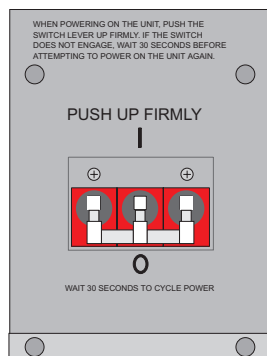
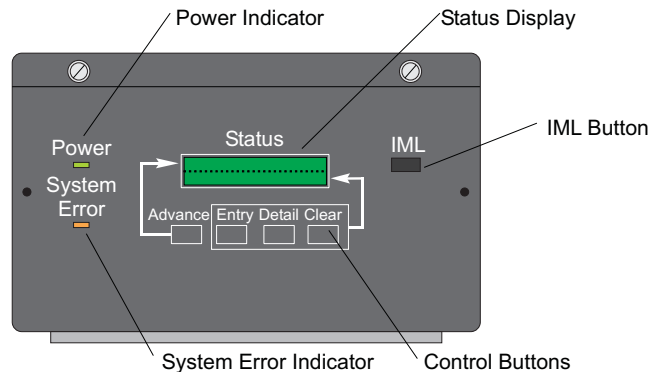
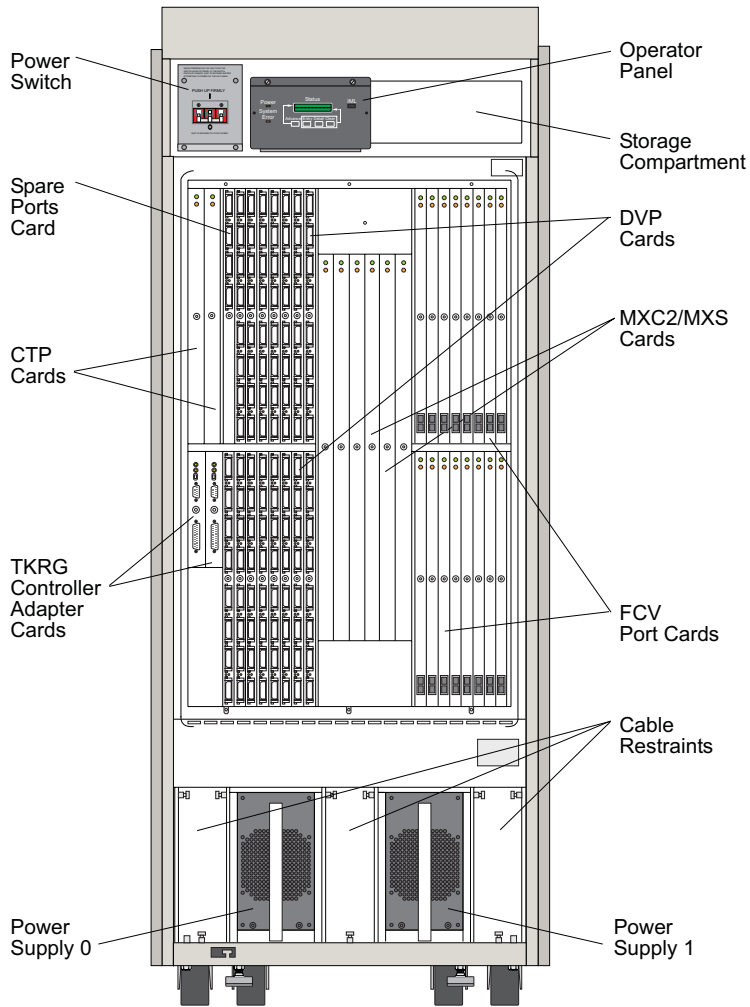

Figure 5. Power Switch
Figure 6. Operator Panel
Figure 7. 9032-005 Director (Front View)
- **Power Switch** - Setting the power switch (Figure 5 and Figure 7) to the on position (|) supplies ac power to the dual power supplies and powers on the Director. Setting the power switch to the off position (O) powers off the Director. The power switch is a non-concurrent field-replaceable unit (FRU) that is removed and replaced only when the Director is powered off.
- **Operator Panel** - The operator panel (Figure 6 and Figure 7) includes a:
- **CTP Card** - The Control Processor (CTP) card (Figure 7) contains a microprocessor and associated logic that provides overall coordination for the Director. The card also initializes system hardware components after power on or reset. During Director operation, the CTP card controls the operator panel, port exception handling, error recovery, maintenance port operation, and control unit port (CUP) operation.
- **Spare Ports Card** - The spare ports card (Figure 7) is only used when ESCON ports on a standard DVP card are swapped for spare ports. The card does not increase the total number of active connections available. The spare ports card *cannot* be used to swap a FICON port on an FCV port card. The spare ports card contains either:
- **Storage Compartment** - The storage compartment (Figure 7) provides storage for tools and supporting publications.
FCV Port Card - The FCV port card (Feature Code #5260) is the hardware interface for FICON fiber-optic media (Figure 7). Up to 16 FCV port cards can be installed in the Director. The card provides a multiplexing and conversion function that connects one FICON port to eight internal ESCON ports that connect to the Director's logic board assembly. The card acts a FICON-to-ESCON converter.
- **MXC/MXS Card Set** - The Matrix Controller/Matrix Switch (MXC/MXS, shown in Figure 7) is a three-card set that controls dynamic connection requests and provides connection paths between ports specified by port attributes configured through the Director Console or System Automation for OS/390 (SA OS/390). There are two MXC card types:
- **DVP Card** - The DVP card (Figure 7) is the hardware interface for ESCON fiber-optic media. A minimum of three DVP cards (24 ports) must be installed in the Director. Each DVP card contains either:
- **Cable Restraint** - Fiber-optic jumper cables are routed to the Director through access holes beneath three cable restraints (Figure 7). Removable covers restrain the cables after they are routed to port cards. The covers can be adjusted to allow for additional cables when port cards are added.
- **Power Supply** - Two variable-input power supplies (Figure 7) step down and rectify facility input power to provide dc power to Director components. An LED on the power supply illuminates when the supply is operational. Each supply is a concurrent FRU that is removed and replaced while the Director is operational. There are two power supply types:
- **TKRG Controller Adapter Card** - The Token Ring (TKRG) Controller Adapter card (Figure 7) provides a: